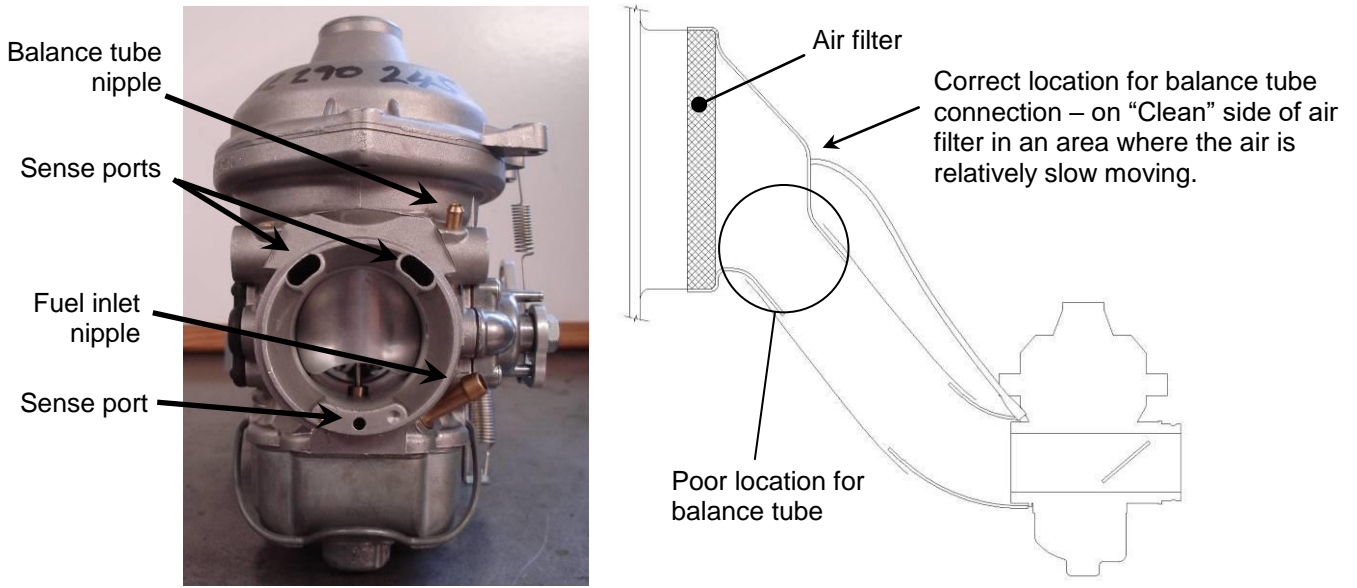

Figure 32. Carburettor Intake & Balance Tube Detail
- The Bing carburettor has a Balance tube (also known as a “sense tube”) which connects the carburettor to the air box. The tube runs from a nipple on the carburettor to the airspace in the air box on the “clean” side of the air filter. This tube is part of a system or ports which “tells” the carburettor how hard the engine is working and controls how the carburettor varies the fuel / air mixture delivered to the engine. Tuning issues and poor running will result if this tube is blocked or connected to the wrong spot. Figure 32 shows the tube installation. Note that the balance tube must not be connected to the air box in a location where the air is moving fast – rapid flows produces pressure changes and boundary layer effects which mean the balance tube gives the carburettor “bad” information, which can cause poor mixture control and running issues.